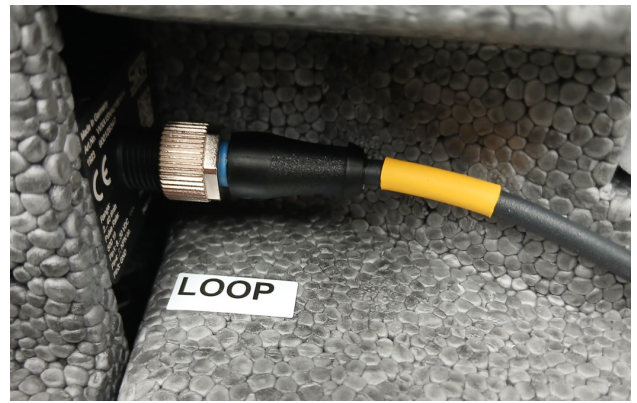

Fig. 71 : Remove Loop Flowmeter Cable
15. On the Loop Flowmeter to the left of the Zeroth, unscrew the connector and remove by feeding back through the respective cable glands in the wiring box. See Fig. 71